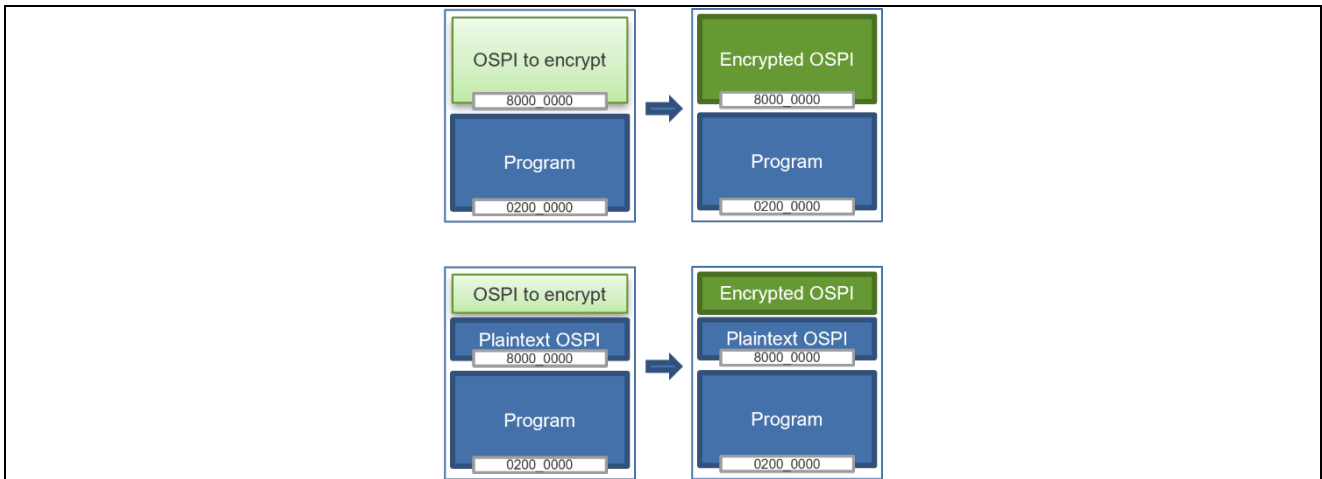

Figure 11. SKMT Support for DOTF Debugging
- Application debugging. The input file contains plaintext of both internal flash and OSPI memory application code and/or data, such as would be generated by compilation of application code. In the output file, all or a portion of the plaintext OSPI information is replaced with encrypted information, retaining all other information in plaintext. All addresses from the original input file are retained. See Figure 11. SKMT Support for DOTF Debugging.